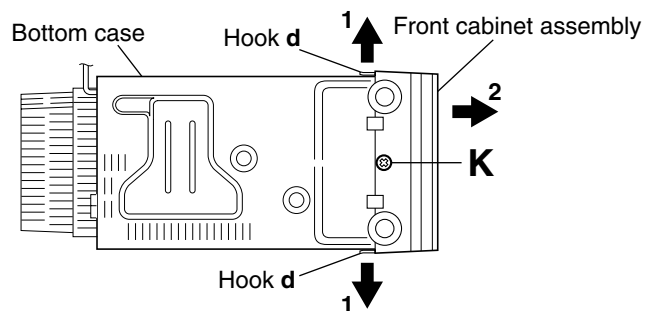

Fig.12
- 6. Remove the screw **K** retaining the front cabinet assembly from the bottom side of the main body. (See Fig.12.)
- 7. While opening the hooks **d** to the left and right of the lower part of the front cabinet assembly (in the direction of the arrows **1**), slide the front cabinet assembly toward the front (in the direction of the arrow **2**). (See Fig.12.)